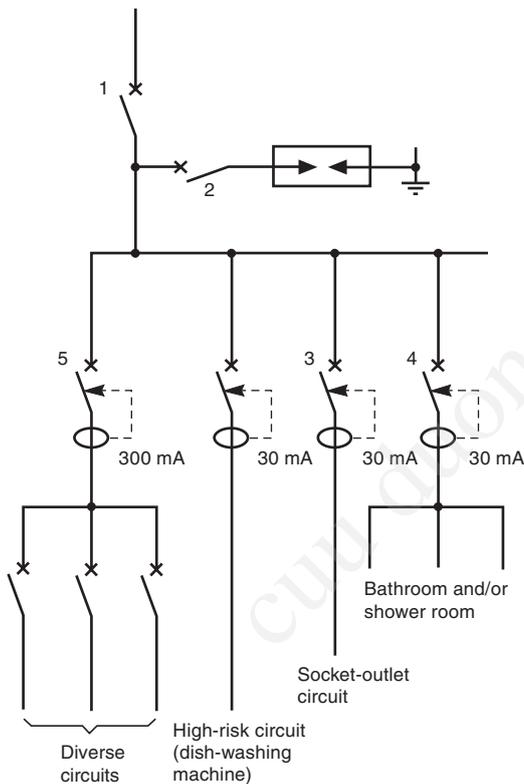

Fig. P7 : Installation with incoming-supply circuit-breaker having no differential protection
- All outgoing circuits from the distribution board must be protected by 30 mA or 300 mA RCDs according to the type of circuit concerned as discussed in chapter F. Where a voltage surge arrester is installed upstream of the distribution board (to protect sensitive electronic equipment such as microprocessors, video-cassette recorders, TV sets, electronic cash registers, etc.) it is imperative that the device automatically disconnects itself from the installation following a rare (but always possible) failure. Some devices employ replaceable fusing elements; the recommended method however as shown in **Figure P7**, is to use a circuit-breaker.
Figure P7 refers: